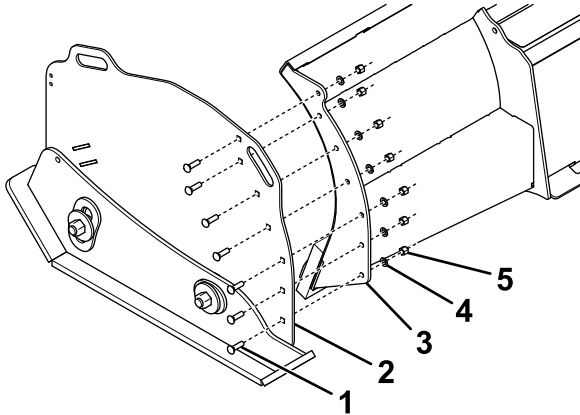

Figure 3
1. On the left side of the plow blade, loosely attach the left wing using 7 carriage bolts (1/2 inch), washers (1/2 inch), and locknuts (1/2 inch) as shown in Figure 3.